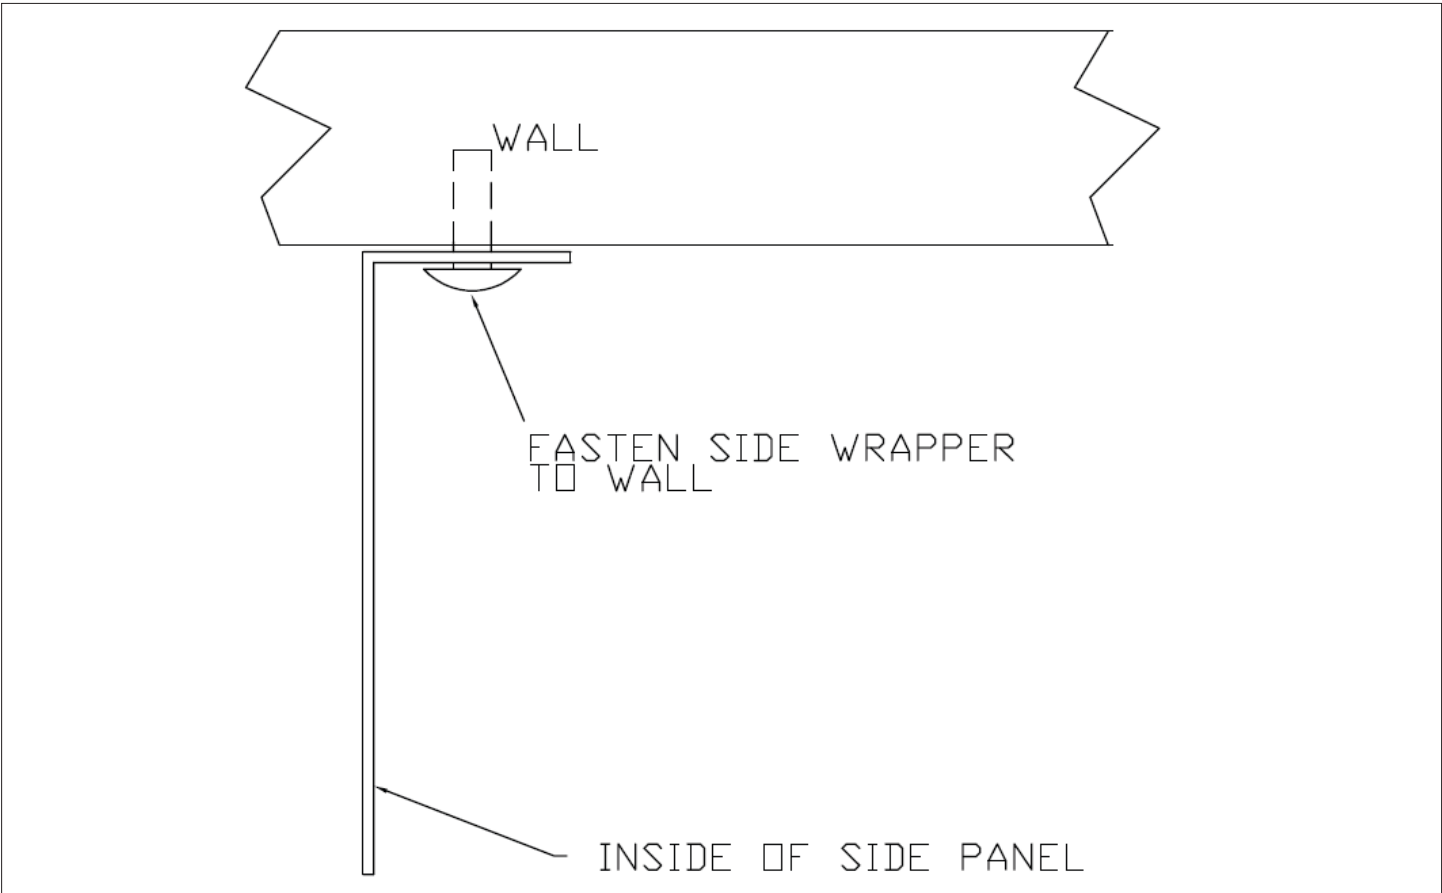

FIGURE 14C
3. Press fit panel into place until wrapper face is flush with hood face. Screw or pop-rivet wrapper to the side channel and wall. **See Figure 14C: Wrapper Detail and Rear Wall Attachment.**